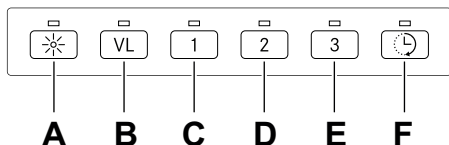

Fig. 10
- 1. To open programming: press and hold down buttons A and B for 3 seconds so that they both flash 3 times, see Fig. 10. Programming mode will then be active for 30 seconds.
- 3. To save programming: press and hold down buttons A and B for 3 seconds, see Fig. 10. Buttons A and B will flash twice to show that the programme has been saved.